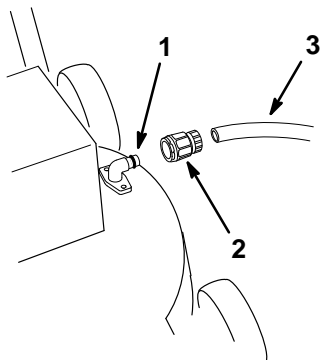

Figure 32
2. Attach a quick disconnect coupling (sold separately) to the end of the garden hose. Attach coupling to mower washout fitting and turn water on high (Fig. 32).